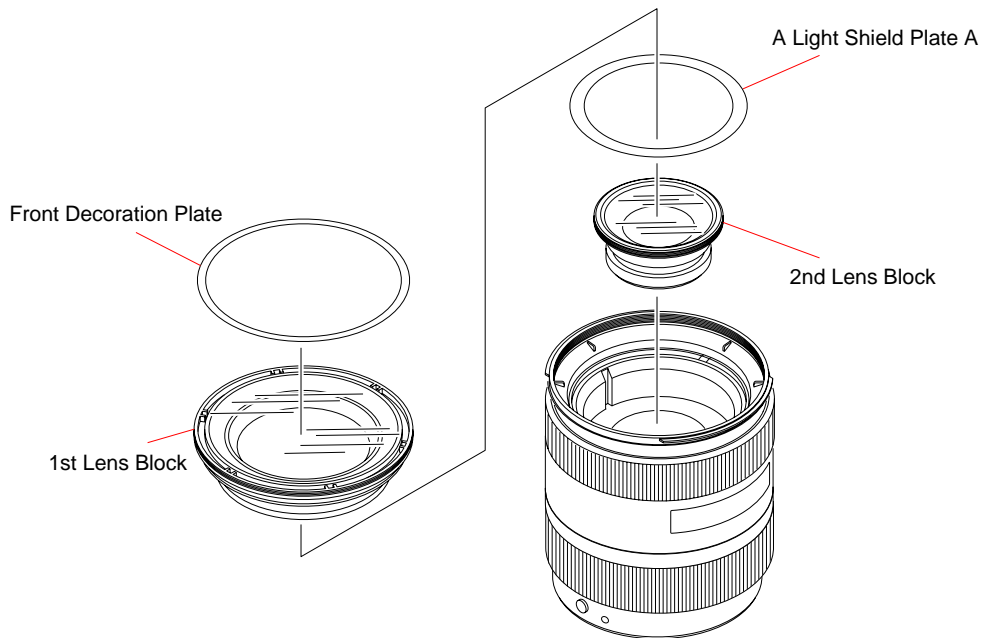

Fig.4-2-8
- 1) Remove parts indicated in Fig.4-2-8 from the lens unit.